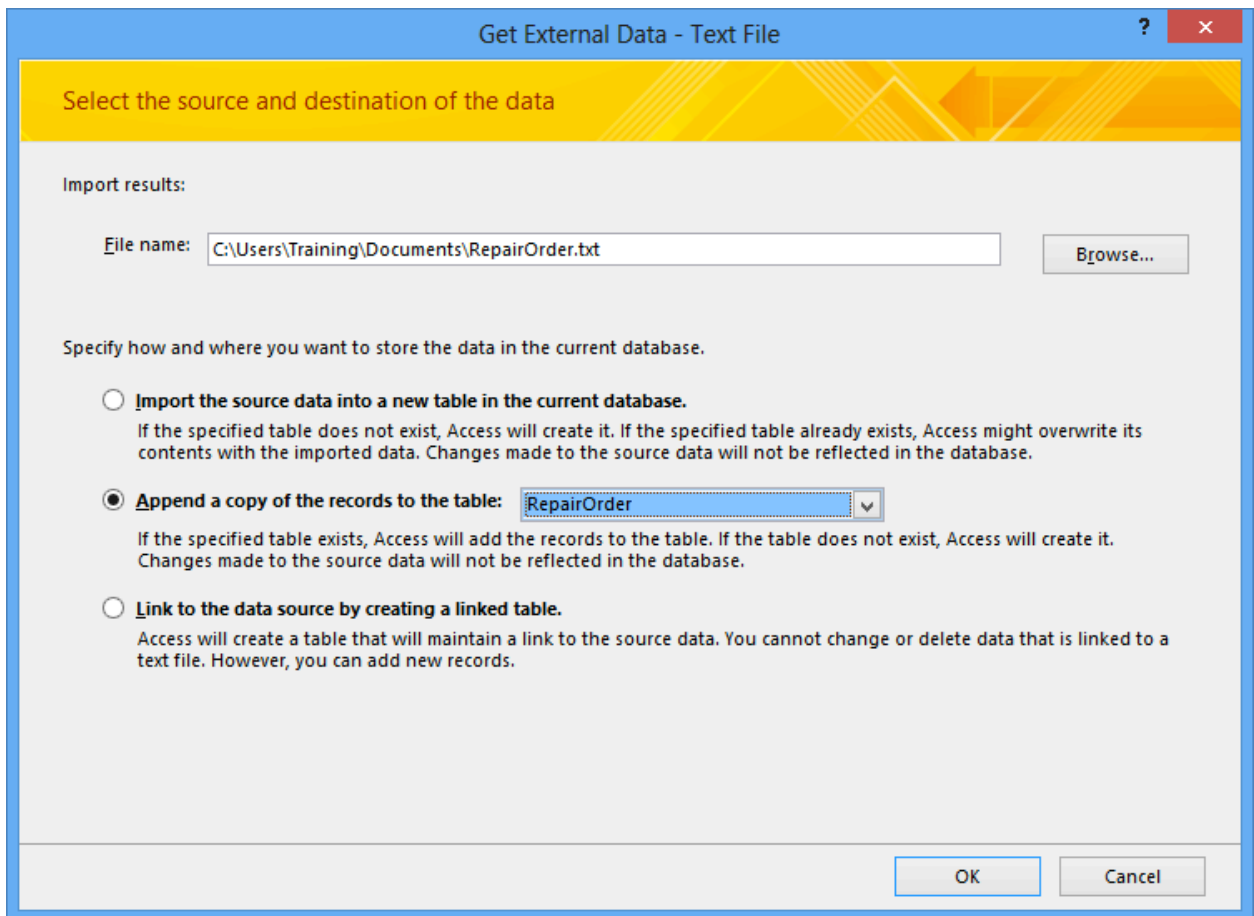

Figure 32: Initial Window of the Get External Data Wizard for Text Files
- The initial window of the Get External Data Wizard window appears (Figure 32). Select the "RepairOrder" file using the **Browse ...** button. You also need make the decision of whether the data go into a new table (this allows you to import a complete table) or into an existing table. Select the second choice "Append a copy of the records to the table". The select the *RepairOrder* table from the drop down list as shown in Figure 32. Click **OK** to continue.